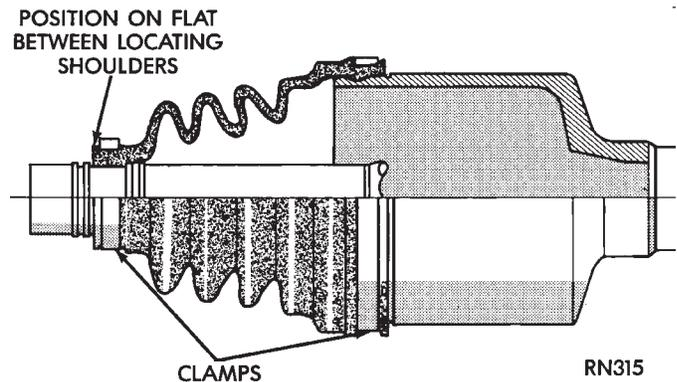

Fig. 16 Right Inner C/V Joint S.S.G.
(1) Slide small end boot clamp onto interconnecting shaft.
(2) Install boot onto interconnecting shaft, position boot on the flat between the locating shoulders (Fig. 16).
(3) Position clamp on boot and crimp bridge of clamp with Crimper Special Tool C-4124.